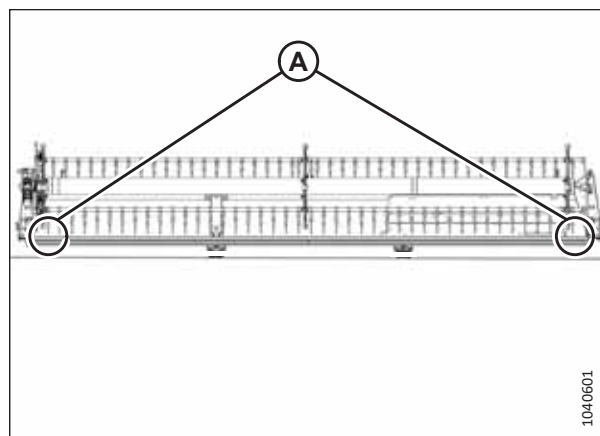

Figure 8.32: Single-Reel Measurement Locations
- Figure 8.32, page 227 – single-reel